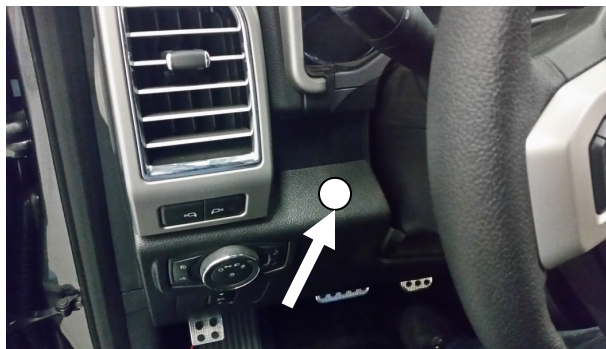

Figure 6
10. Drill $\frac{3}{4}$ " hole and notch (as explained in light bar instructions) in desired location for the supplied switch. **Recommended location is on lower dash panel by steering wheel. (Refer to Figure 6 for location)**